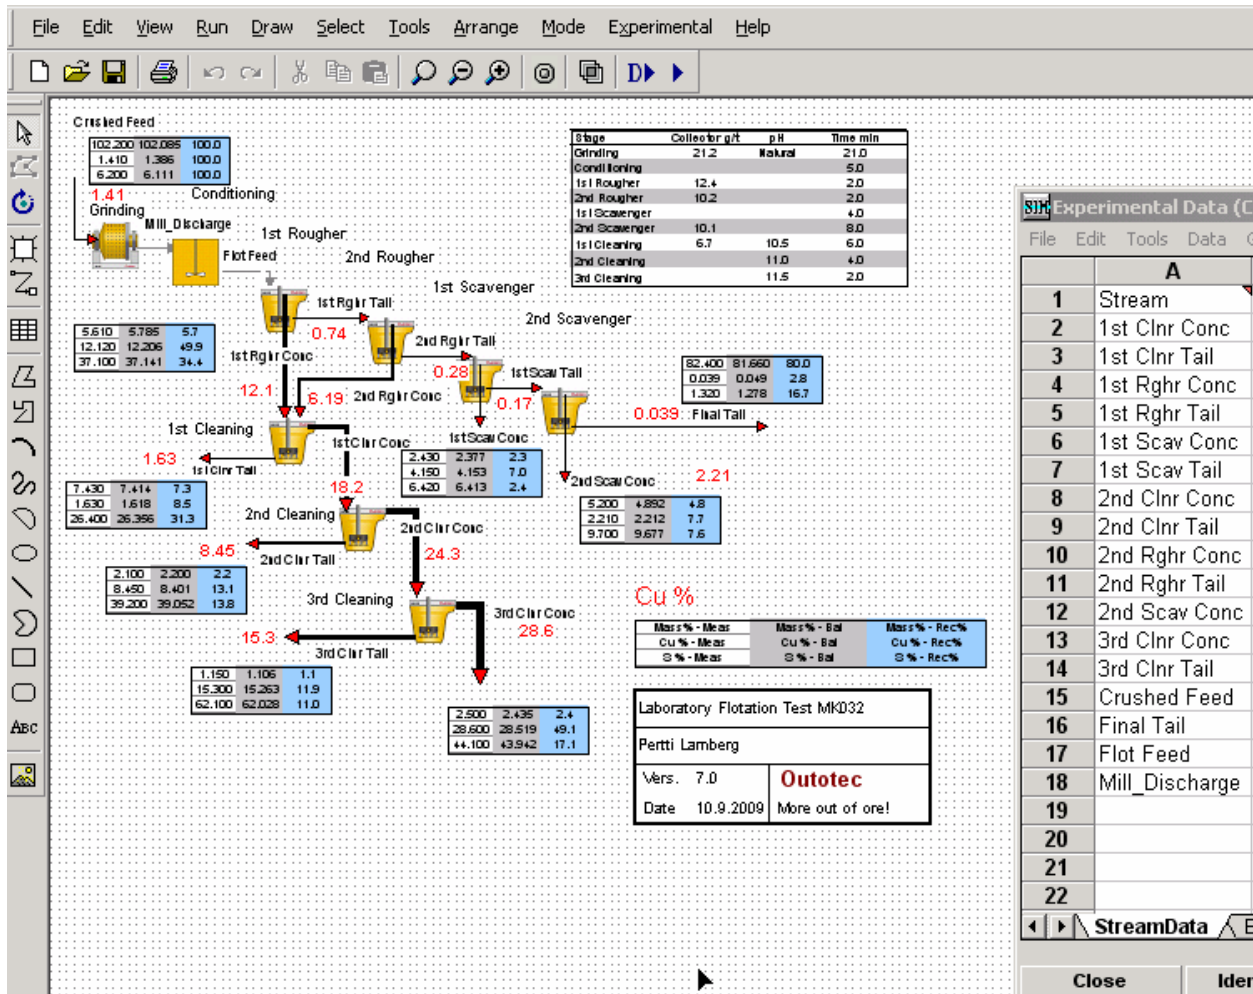

Figure 31. Graphical objects added to the flowsheet.
- Add other elements like tables, texts, and drawings onto the flowsheet (Figure 31).